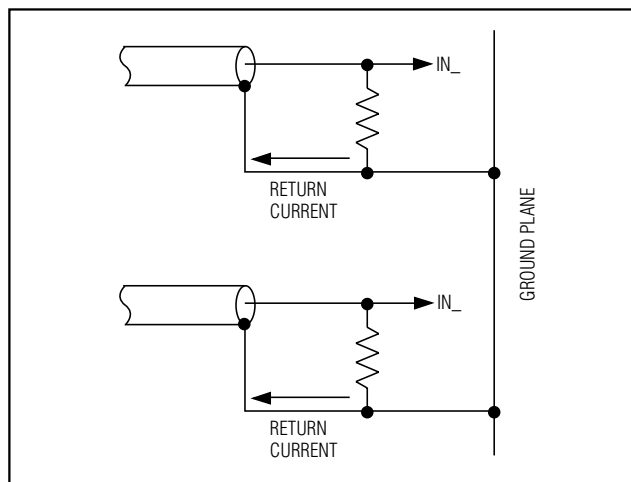

Figure 11. Low-Crosstalk Layout. Return current from termination resistor does not flow through the ground plane.
- 3) Connect the coaxial-cable shield to the ground side of the 75Ω terminating resistor at the ground plane to further reduce crosstalk (Figure 11).